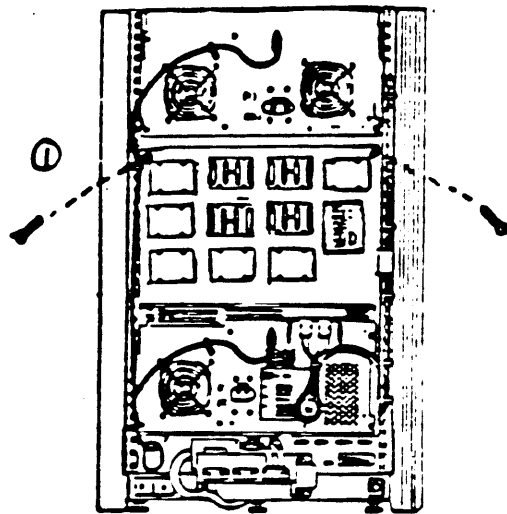

Figure 2-27. Loosen and remove the screws from the panel.
- o Loosen and remove the two screws that hold the back panel door as shown in Figure 2-27.